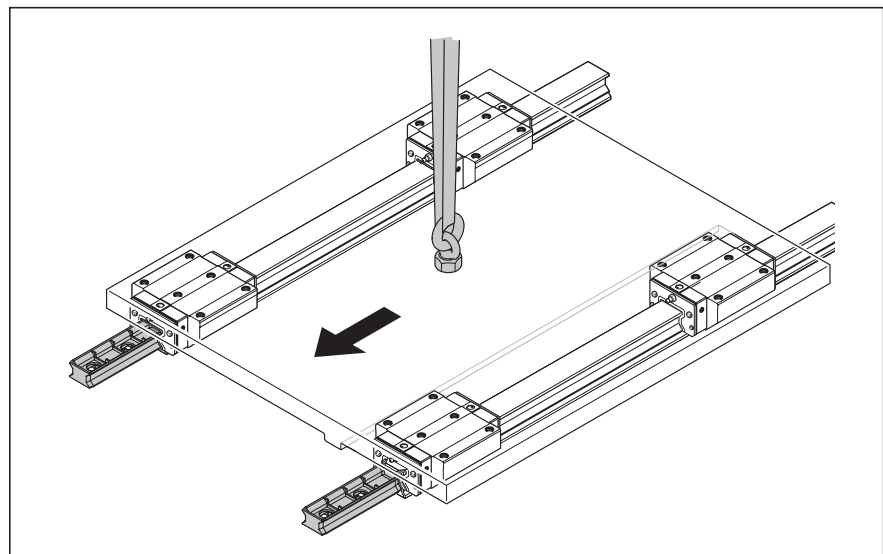

Fig. 32: Sliding the runner blocks off the rails (Scenario 3)
1. Carefully remove the runner block assembly in a straight line off the guide rails, sliding each runner block onto its mounting arbor. ⇒ ☒ Fig. 32.